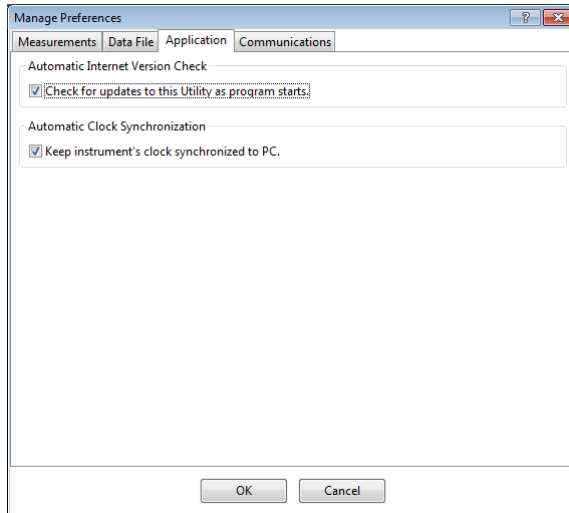

Figure 28 Application tab
1. Navigate to the server listed on the orange subscription card (zentracloud.com or zentracloud.cn) (Figure 28).